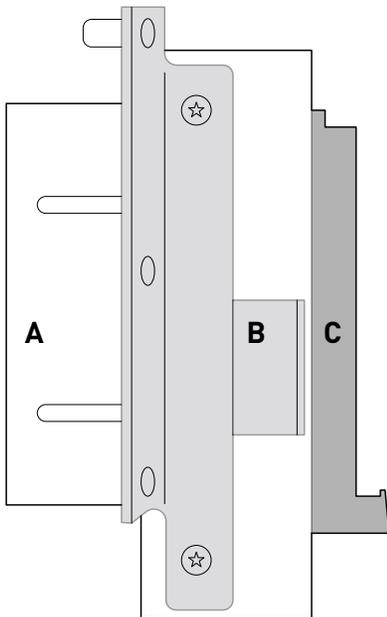

Fig. 2.0
2. Attach mounting brackets from the OEM screen to the FOR01 brackets. (Fig. 2.0)